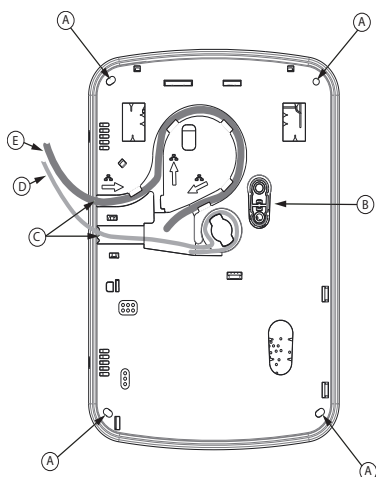

Figure 2 - TL8803GI-EU backplate
3. Route the RS422 and Ethernet cables through the retaining clips as shown in figure 2. Run the wires in the direction indicated by the arrows.
4. Secure the backplate to the wall using the four mounting holes. (See figure 2)